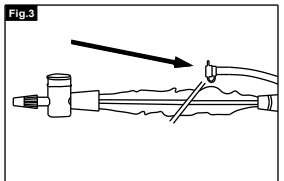
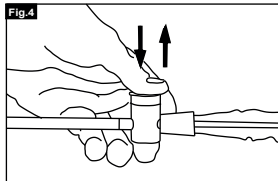

Fig. 3
Fig. 4
2. Slowly introduce fluid into the port (Fig. 3), while depressing the thumb control valve (Fig. 4).